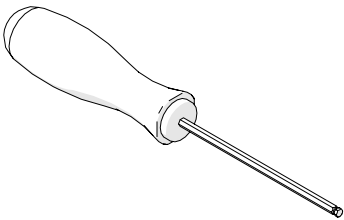
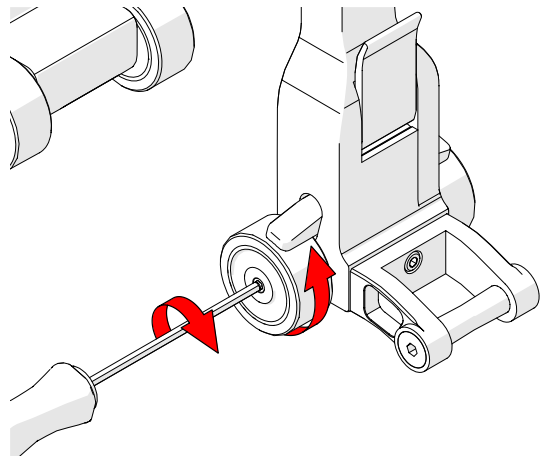

Fig. 16 - 3 mm hex driver
Fig. 27 - Removing wheels
- ▶ The 3 mm hex driver is sufficient for all typical operations and adjustments. (Fig. 16).
Tightly grip the wheel to be removed by hand. Insert the provided 3 mm hex driver in the shaft of the wheel to be removed (Fig. 16), and unthread the wheel from the axle (Fig. 27).
Press the wheel on the axle and insert the 3 mm hex driver in the shaft while threading the wheel to the axle (Fig. 27).